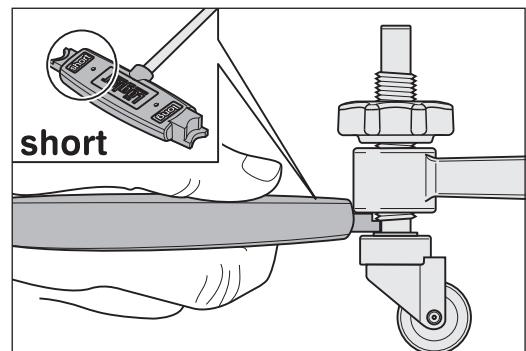
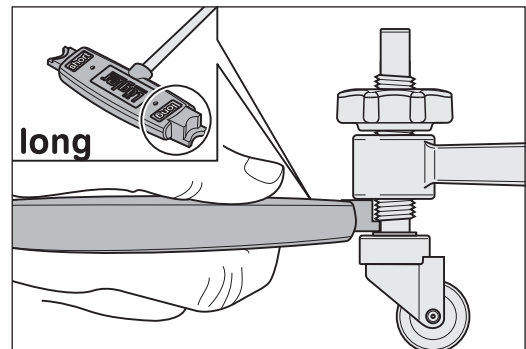

Fig. 52 Standard setting for the short attachment and the corner attachment.
Fig. 53 Standard setting for the long attachment.
- 4 Hold the appropriate universal spanner alignment mark for the attachment used between the guide roller and the fan housing. The lettering on the spanner must be legible from above (Fig. 52 and Fig. 53).
- 5 Now turn the guide roller in the direction required until the alignment mark on the fan housing and the guide roller match up (Fig. 52 and Fig. 53).